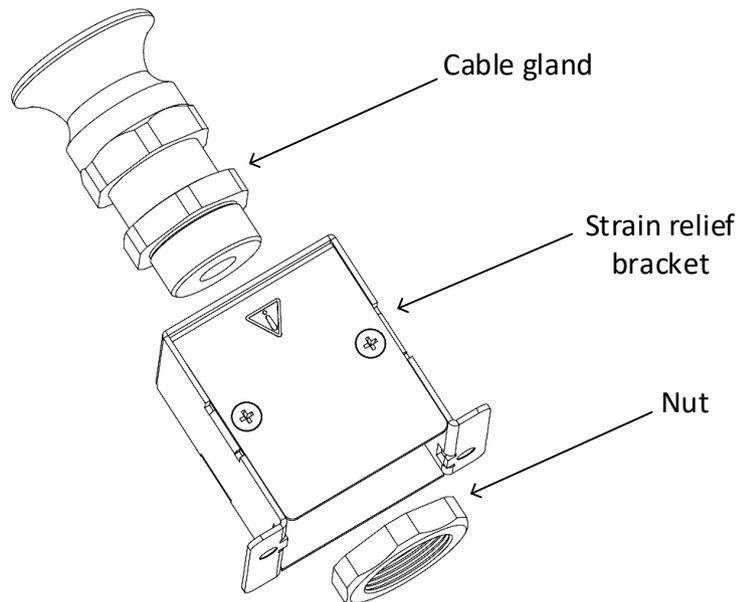

Figure 4-21: Insertion of the Plastic Nut into Strain Relief Bracket
2. Insert the Cable gland into the Strain relief bracket Assembly as shown in Figure 4-21.